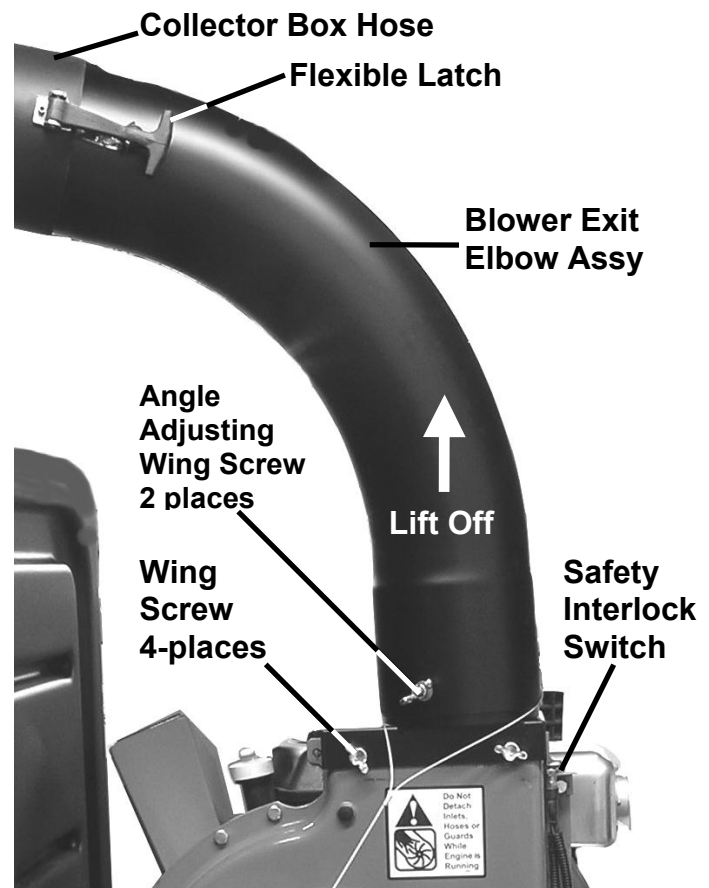

Figure 44
1. Disconnect the Blower Exit Elbow to the Collector Box Hose by releasing the two flexible latches (*Figure 44*) and separate the hose.
3. Remove the four (4) Wing Screws from the Blower Exit Elbow Assembly (*Figure 44*).
4. Lift the Blower Exit Elbow Assembly from the top of the Blower and install a new assembly in the reverse order (*Figure 44*).
1. Disconnect the Blower Exit Elbow Assembly from the Collector Box Hose (*Figure 44*).
1. Disconnect the Blower Exit Elbow Assembly from the Collector Box Hose (Figure 44).